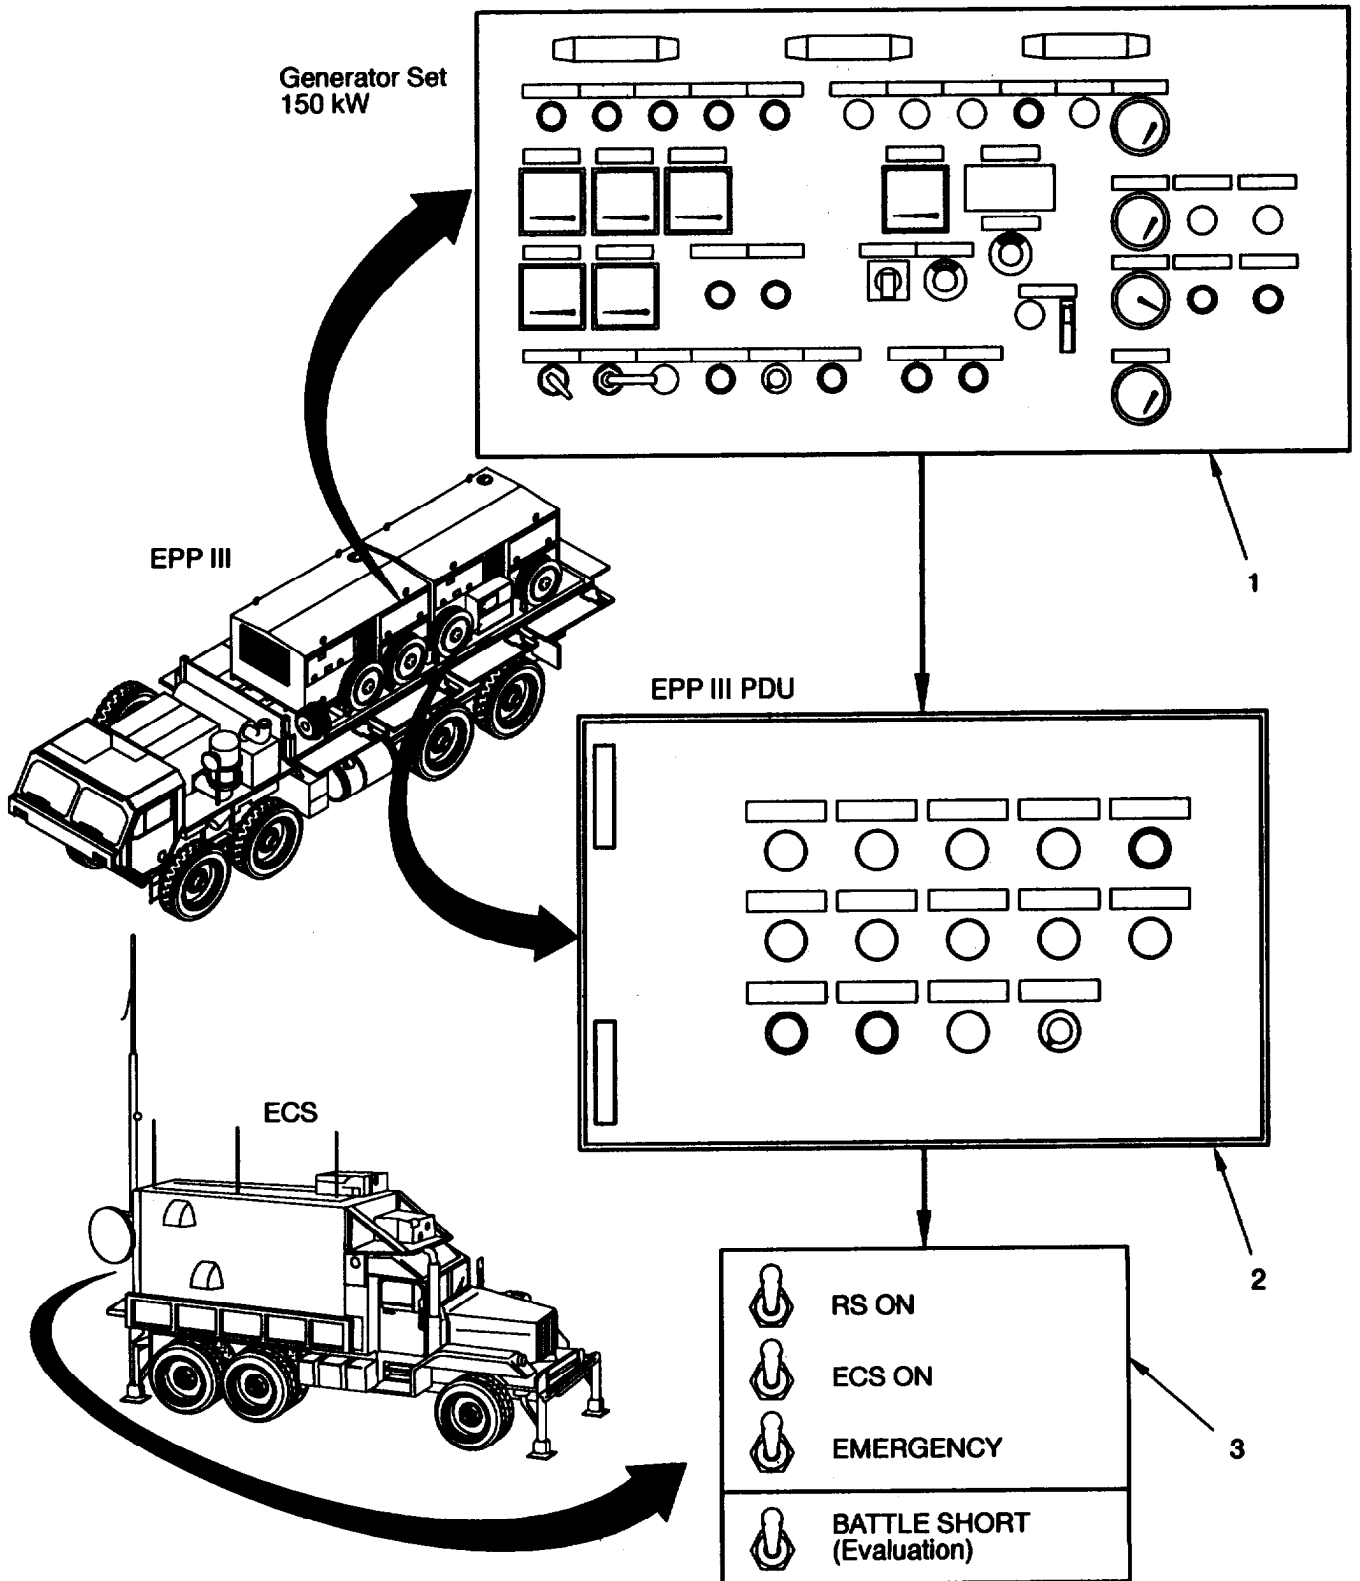

Figure 2-17 Control and Indicators During Operation.
All operations are controlled from the control panels (1 to 3, figure 2-17):
- a. On ECS (3, figure 2-17) set ECS ON switch to On.
- b. On ECS (3, figure 2-17) set RS ON switch to On.